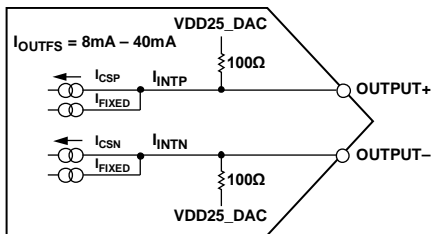

Figure 137. Equivalent DAC Output Circuit
The AD9164 provides complementary current outputs, OUTPUT+ and OUTPUT-, that sink current from an external load that is referenced to the 2.5 V VDD25_DAC supply. Figure 137 shows an equivalent output circuit for the DAC. Compared to most current output DACs of this type, the outputs of the AD9164 consists of a constant current (I_FIXED), and a peak differential ac current, I_CS (I_CS = I_CSP + I_CSN). These two currents combine to form the I_INTX currents shown in Figure 137. The internal currents, I_INTP and I_INTN, are sent to the output pin and to an input termination resistance equivalent to 100 Ω pulled to the VDD25_DAC supply (R_INT). This termination serves to divide the output current based on the external termination resistors that are pulled to VDD25_DAC.
The example shown in Figure 137 can be modeled as a pair of dc current sources that source a current of I_OUT to each output. This differential ac current source is used to model the signal (that is, a digital code) dependent nature of the DAC output. The polarity and signal dependency of this ac current source are related to the digital code (F) by the following equation: